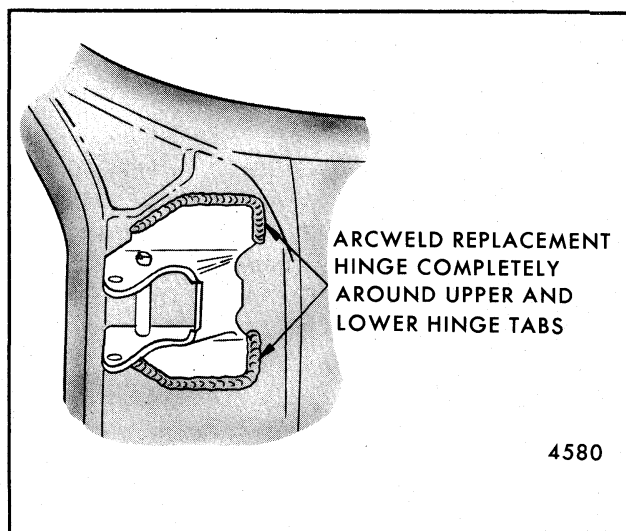

Fig. 5-81-Body Side Hinge Strap Installation - "X" Styles
4. Remove door and complete arc welding of hinge. Arc weld completely around upper and lower hinge tab as shown in Figure 5-81.